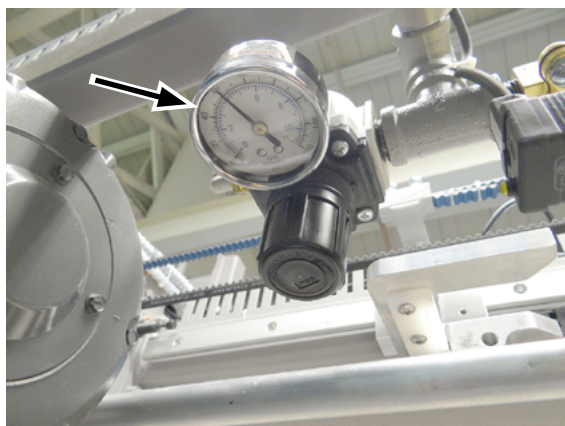

Figure 4-6: Air pressure gauge located inside the body of the machine.
4. Move to the front of the unit and look under the left front of the O.P.L. and locate its internal air pressure regulator (Figure 4-6). Make sure it is set to 60 psi (415 kPa).